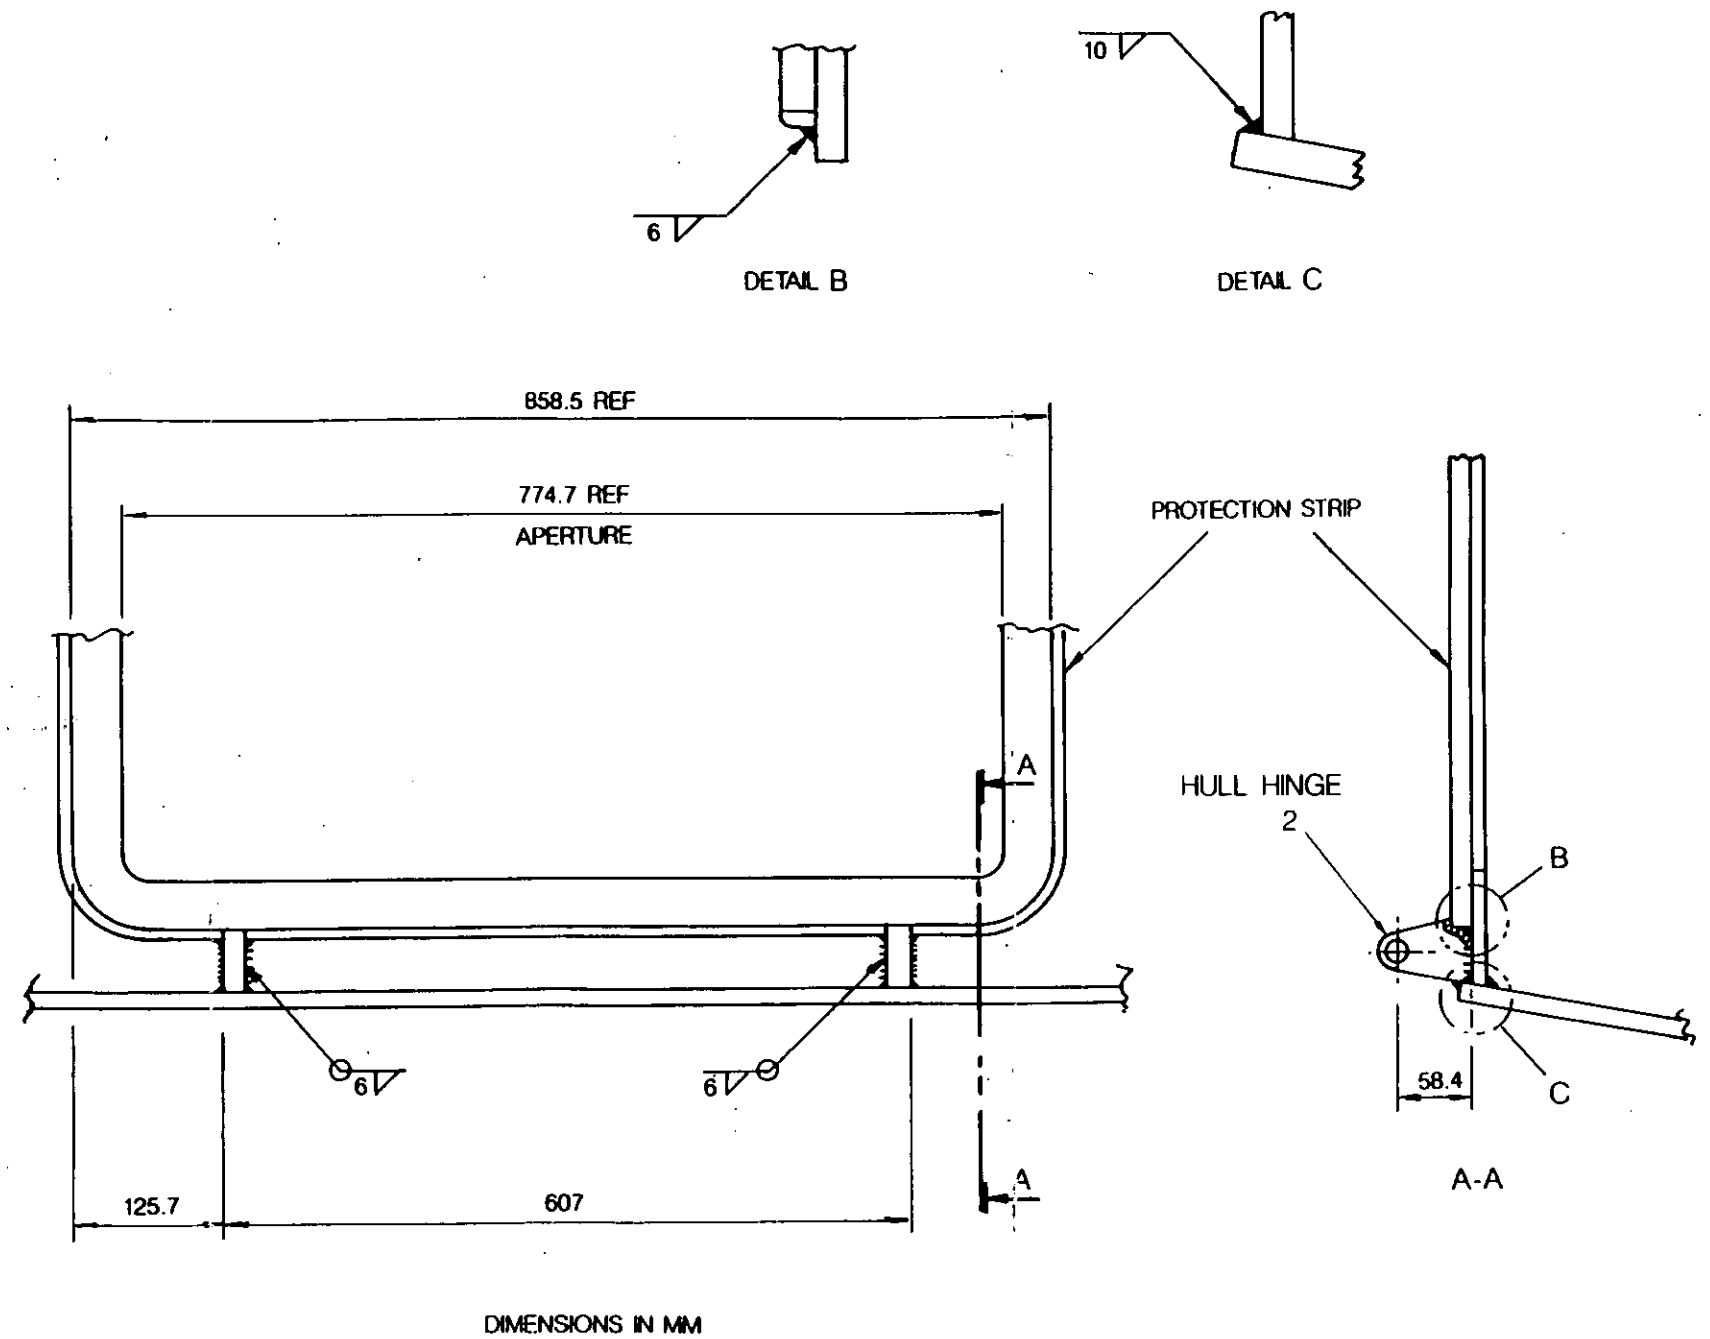

Fig 3 Replacement of the front access cover hinges (hull), set to the original build standard
9.3 To replace the front access cover hinges (hull and hatch), follow the repair scheme detailed at Fig 3, followed by the repair scheme detailed at Fig 1.